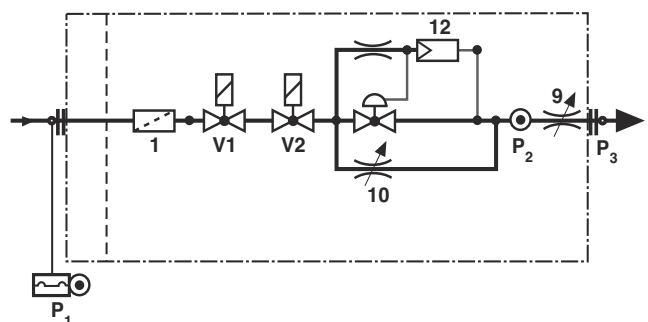

Fig. 9
- A.** measuring nozzle P2 (Fig. 9) before valve D
- C.** startup valve (no. 10 in Fig. 9)
D. maximum flow rate valve (no. 9 in Fig. 9)